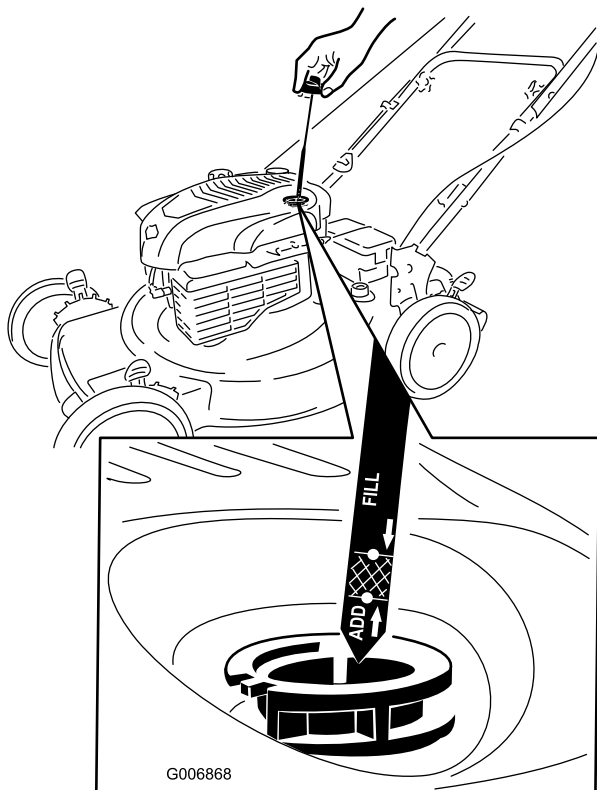

Figure 6
1. Remove the dipstick (Figure 6).
2. **Slowly** pour oil into the oil fill tube until the oil level reaches the **Full** line on the dipstick (Figure 6). **Do**